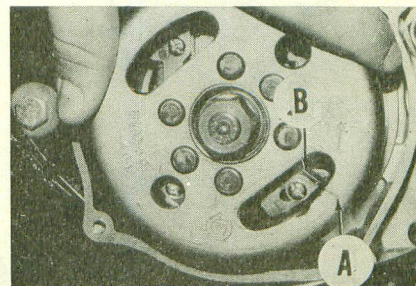

Fig. Y18-6—Timing mark (A) and pointer (B) on MX175A should be aligned when piston is 2.0mm BTDC.
(0.078 in.) BTDC. Timing mark and pointer (A&B—Fig. Y18-6) should be aligned at this point. Loosen screws (C) and reposition trigger coil to adjust timing.